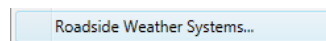

Figure 3-22 – RWIS Menu
- **Roadside Weather Systems** (see Figure 3-22): This option allows the operator to control Roadside Weather Information Systems (RWIS) devices; the software is described in detail in Section 3.2.14.